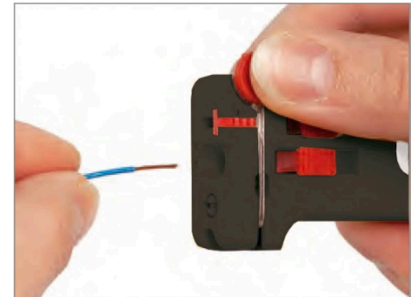

Figure 5
5. Depress the Stripper Blade Lever. While holding the Stripper Blade Lever closed, pull the tool away from the wire. See Figure 5.